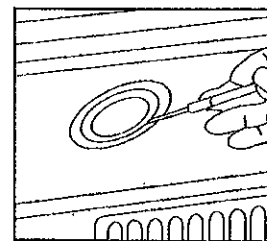

Fig. 10
- **(Fig. 10)** Remove protective cover with small screwdriver.